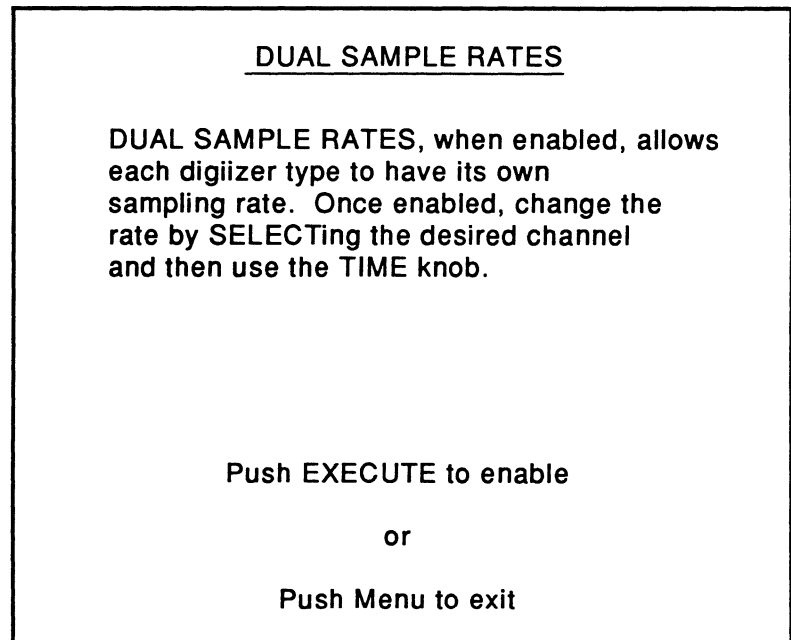

Figure 2 - Dual Sample Rates execution screen
3. Press the Execute button. The Dual Sample Rates execution screen appears (Figure 2).
Figure 2 - Two identical signals were input to channels 1 and 3 with the Time Per Point settings shown. Channel 1 captured one full cycle with its Time Per Point setting of 500 nS and channel 3 captured two full cycles with its Time Per Point setting of 1.0 μ S.